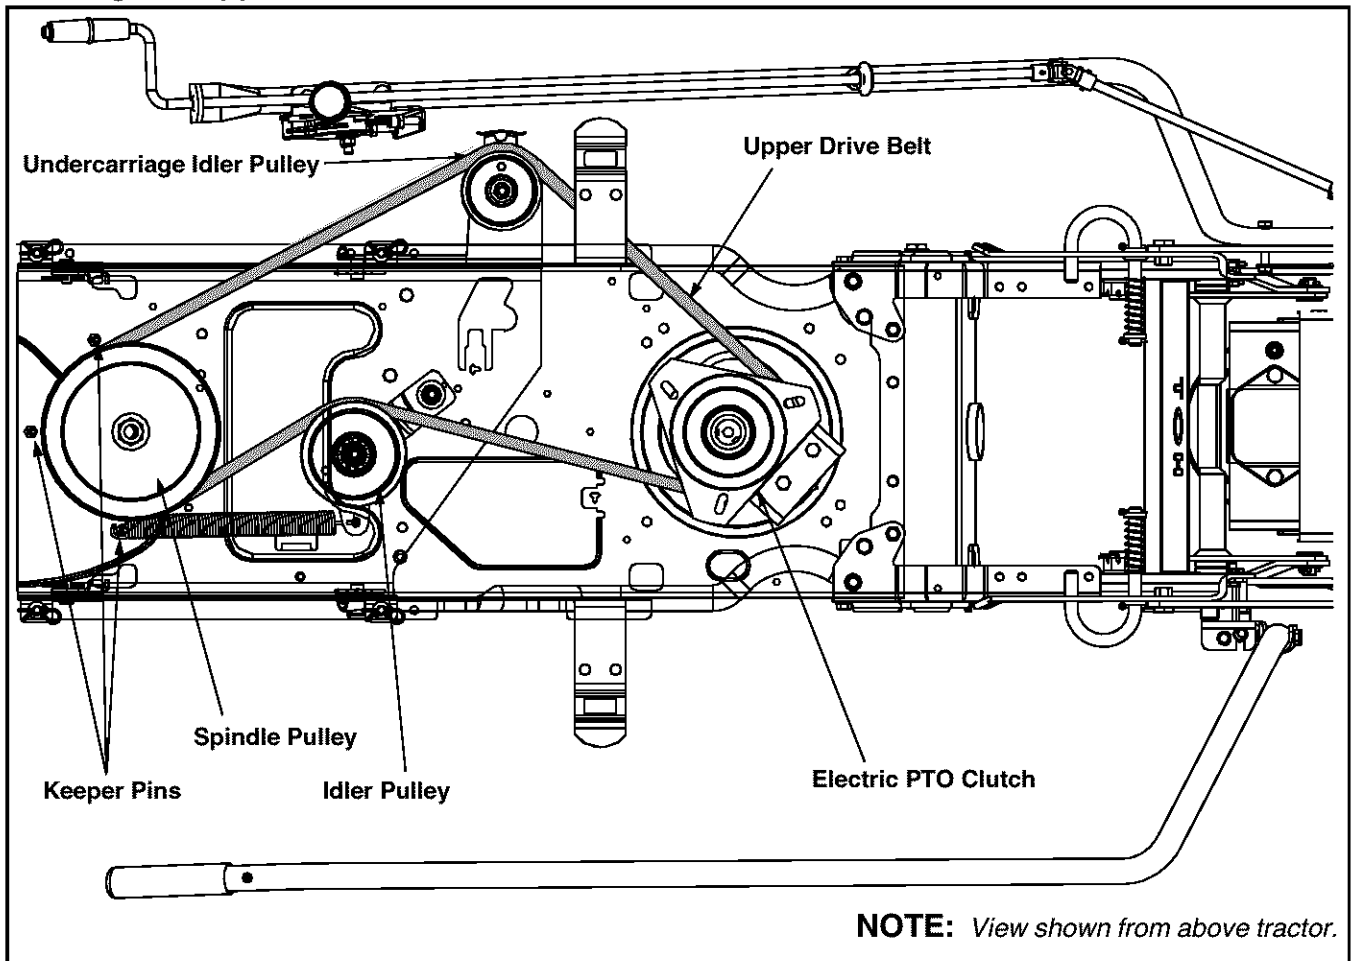
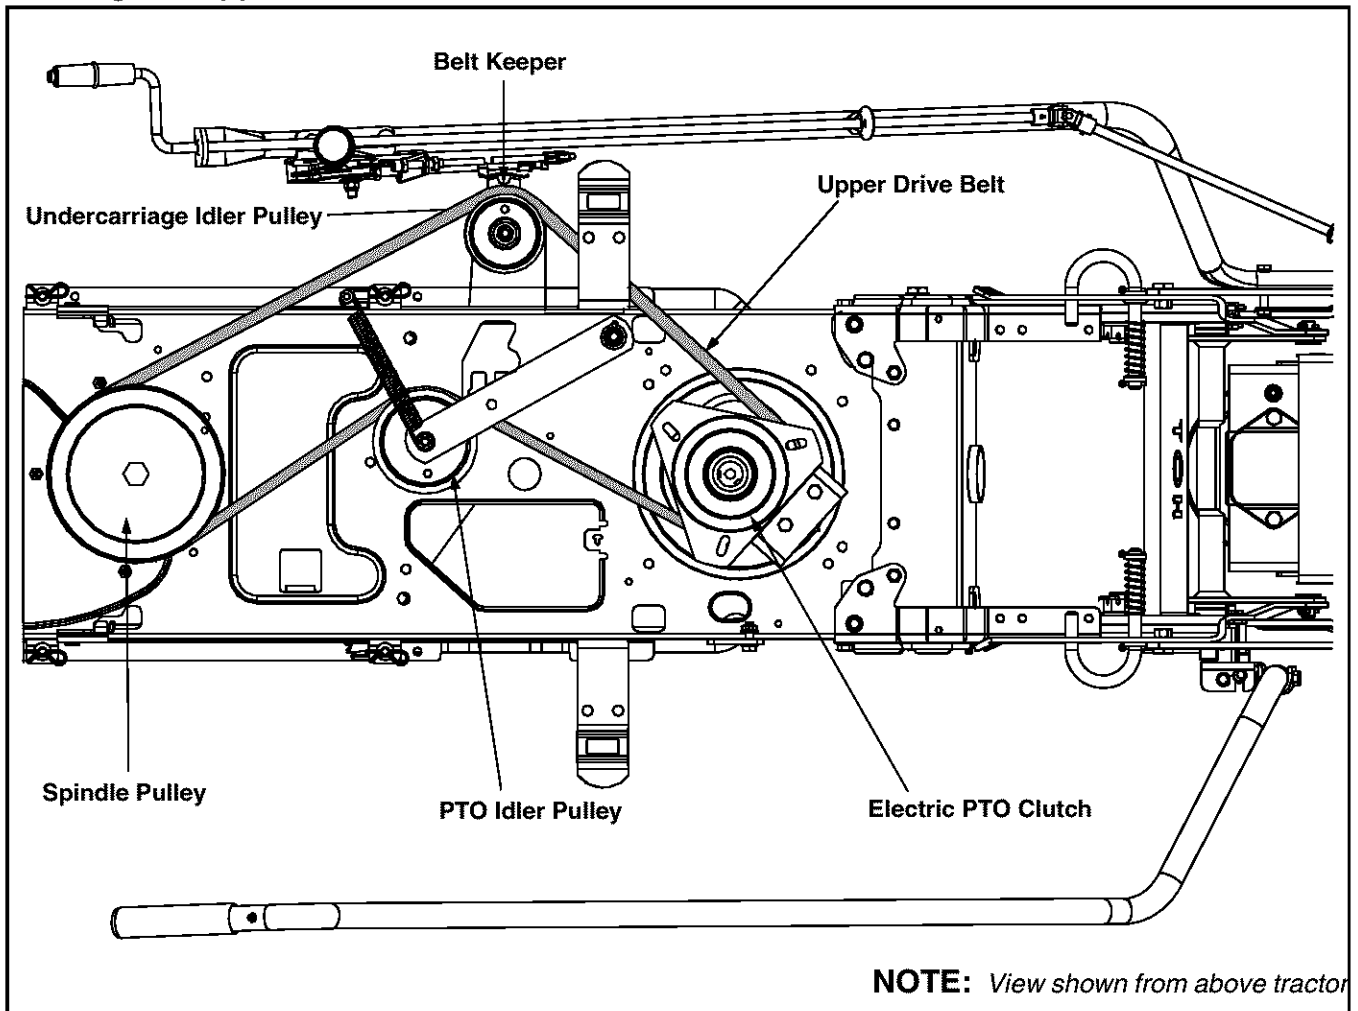

Figure 16
Figure 17
1. Route the upper drive belt around the spindle pulley, the pulley found on the idler assembly mounted earlier, the undercarriage idler pulley and the electric PTO clutch as illustrated in Figure 16. Make sure that the belt is routed to the **INSIDE** of all the keeper pins on the spindle pulley.
† The shape of the double-idler bracket varies by model. The belt routing is as pictured in Figure 16, regardless of the bracket's shape. If the PTO double-idler bracket on your tractor resembles that shown in the inset of Figure 16, proceed to Step 1 below. If the PTO double-idler bracket on your tractor resembles that shown in the main illustration of Figure 16, however, step one below can be disregarded.
1. Refer to the inset of Figure 16. The belt keeper found on the leftmost pulley on the PTO double-idler bracket may have to be repositioned. Position **A** is the proper location for operation of the cutting deck. Position **B** is the proper location for operation of the snow thrower attachment. To reposition the belt keeper, loosen, but do NOT remove the nut which secures the pulley to the double-idler bracket. Rotate the belt keeper until the metal tab on its rear portion is firmly seated in the hole provided (See inset of Figure 16), and retighten the nut.
2. Attach and route the proper upper drive belt (refer to the table on page 7) around the spindle pulley and idler pulley found on the undercarriage, the lower portion of the engine pulley and the two pulleys found on the PTO double-idler bracket as illustrated in Figure 16. Make sure that the belt is routed to the **INSIDE** of all belt keepers on the idler pulleys and the keeper pins found around the spindle pulley.
* The belt-routing configuration illustrated in Figure 17 DOES NOT apply to tractors equipped with a 54-inch deck. For tractors equipped with a 54-inch deck, refer to Figure 16 on page 11.
1. Attach and route the upper drive belt around the spindle pulley and idler pulley found on the undercarriage, the electric PTO clutch and the PTO idler pulley as illustrated in Figure 17. Make sure that the belt is routed to the INSIDE of the belt keeper on the undercarriage idler pulley and the remaining keeper pins found around the spindle pulley.